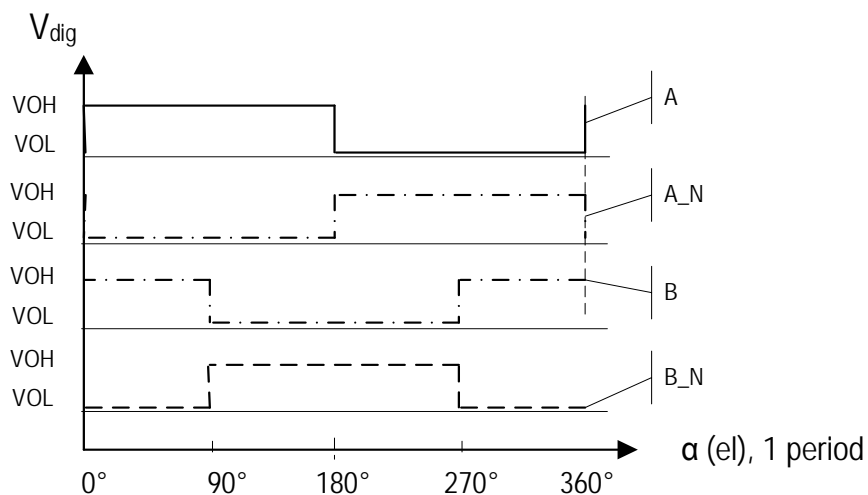

Figure 11. Digital Incremental Differential AB Mode Output Signals
- Clockwise rotation: signal B is high at rising edge of A as shown in Figure 11 at 360° where moving from left to right (0° to 360°)
- Counter clockwise rotation: signal B is low at rising edge of A as shown in Figure 11 at 180° where moving from right to left (360° to 0°)